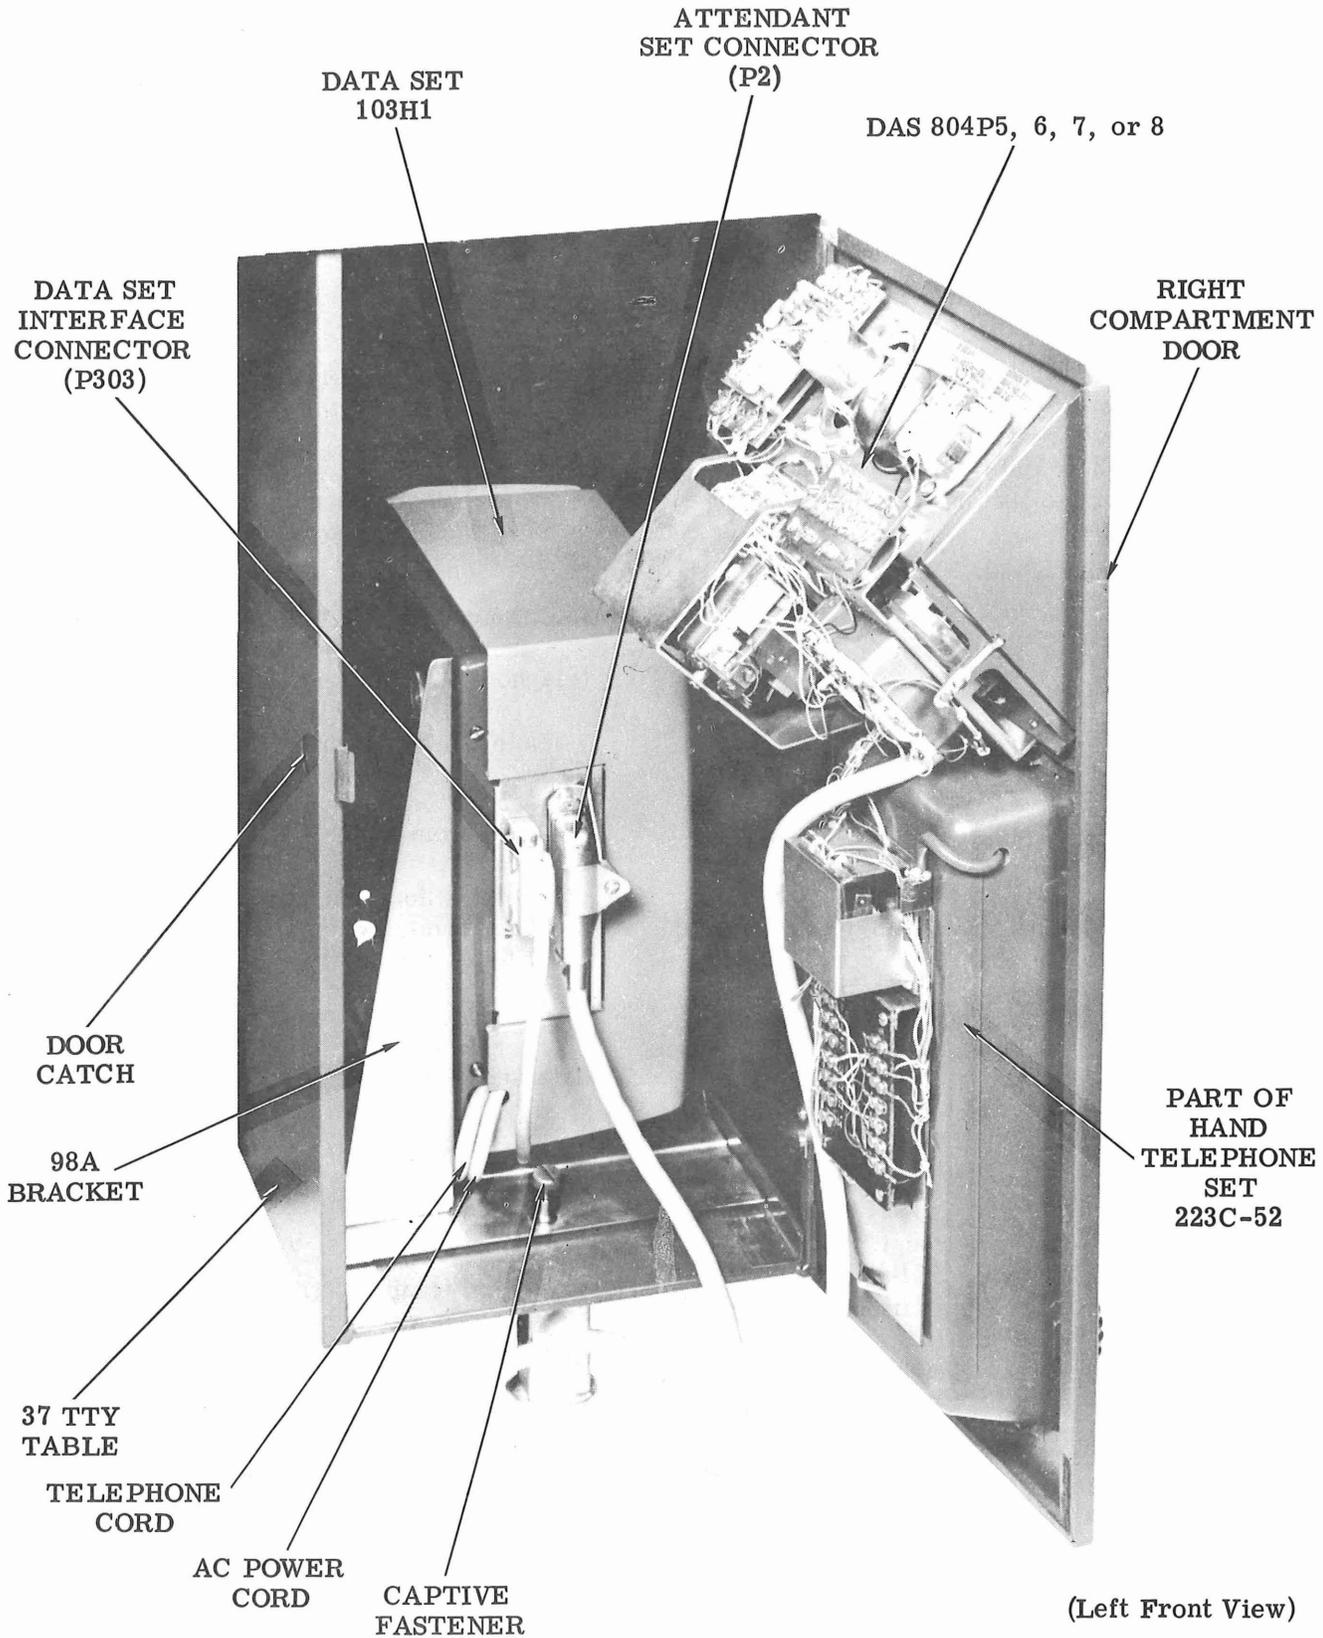

Figure 8 - Data Station Components Located in Right Compartment of a Two-Compartment 37 TTY Table
- (1) Open right compartment door by depressing door catch (Figure 8).
- (2) Loosen captive fastener holding the data set to the compartment floor.
- (3) Grasp the data set and pull out.
- (4) Place data set on floor in front of right compartment door.